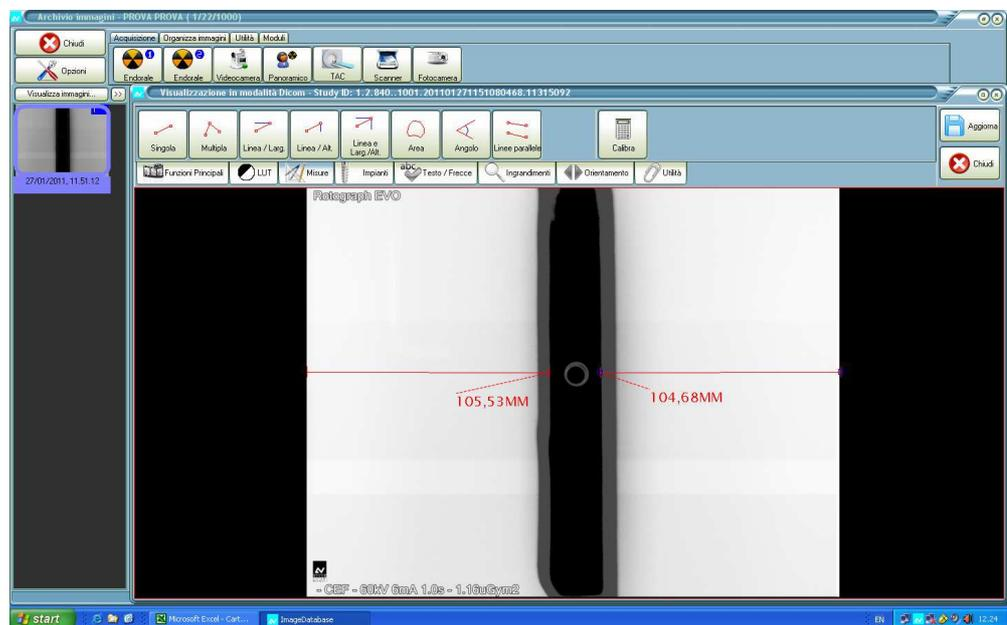

Figure 6-20
- If the image is not symmetric in the window (Figure 6-20), it will be necessary to adjust the CEPH sensor position (see paragraph 9.6.2).